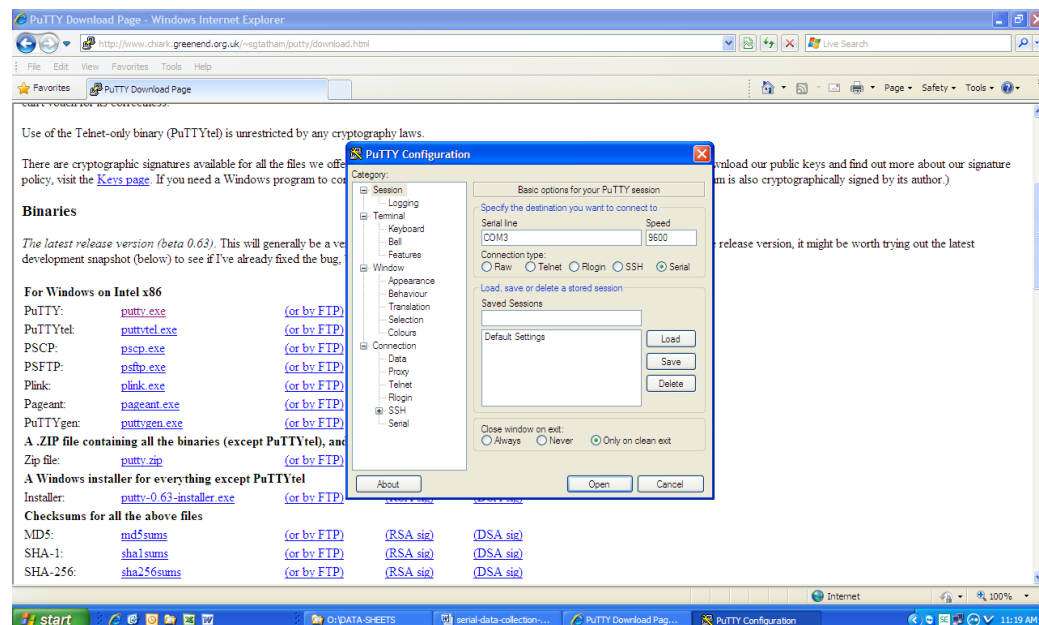

Figure 6
4. Run the installation and select the serial port as the connection type, Speed 9600 and enter the COM port number (see Step 3b.). (Figure 6.)